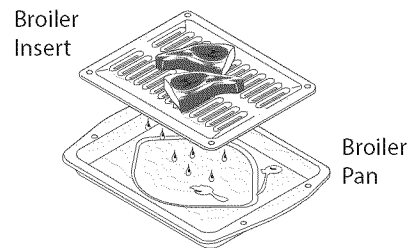

Figure 4: Broil accessories
- Always use a broiler pan and its cover when broiling. (Figure 4).